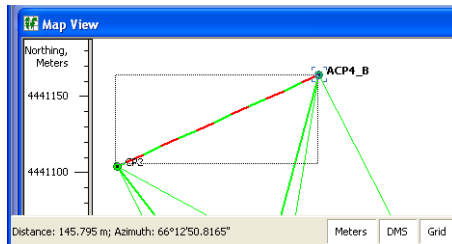

Figure 4-51. Show Azimuth
- Show azimuth – enable to display an azimuth (from the start point to the end point of the rectangle) in the Status Bar when the user drags the rectangle on the Map View (Figure 4-51).